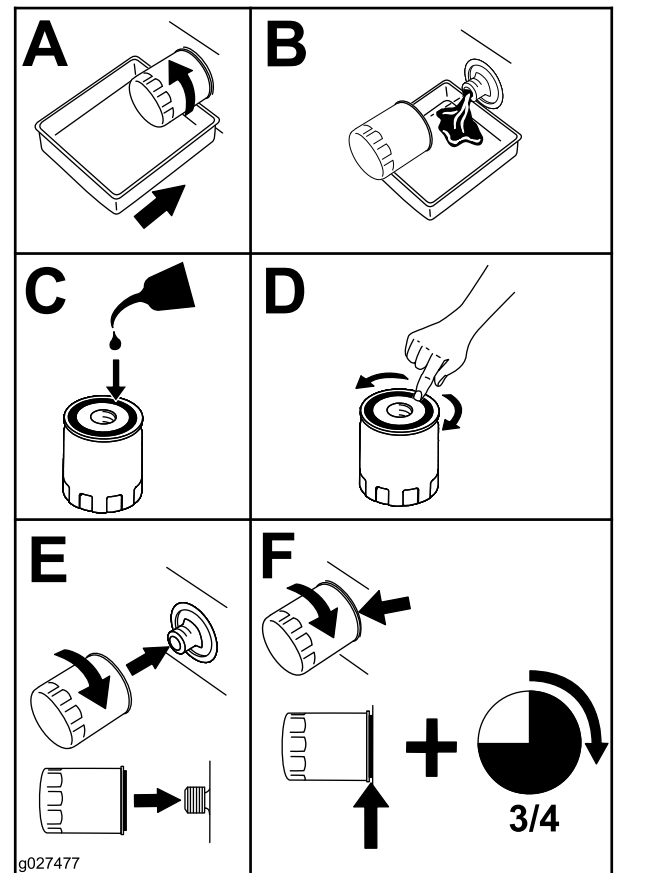

Figure 87
6. Replace the engine-oil filter as shown in Figure 87.